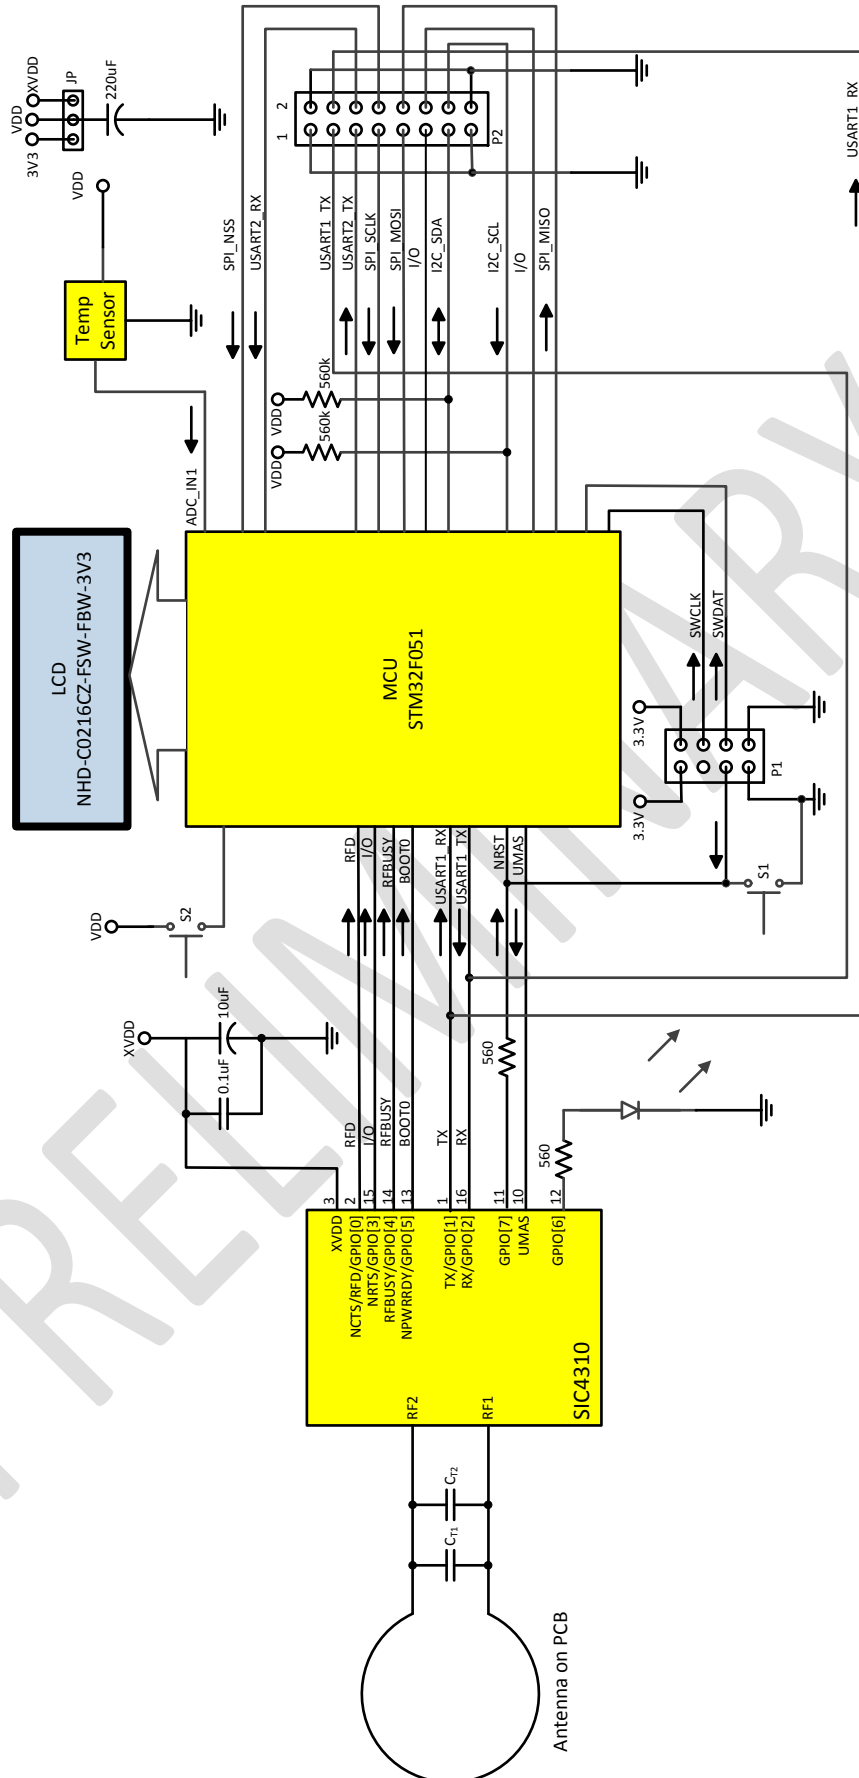

Figure 3 Simplified Schematic diagram of SIC4310-FU
The SIC4310-FU is an SIC4310 Development Kit with LCD and temperature sensor. Its main purpose is to demonstrate usage and performance of the RFID Tag IC with UART Interface "SIC4310". **Figure 3** shows a simplified schematic diagram of the SIC4310-FU. The RF connection topology of the SIC4310-FU is a close-coupling antenna network. By pin selection (JP), the power supply can be either an external 3.3V or the harvested power from RF\*.